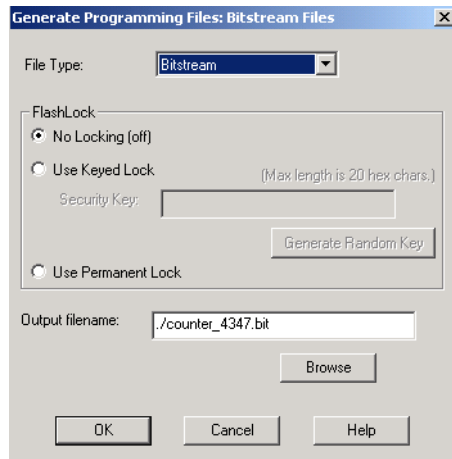

Figure 2-30. Bitstream Generation Dialog Box
1. In the Tools menu, click **Bitstream** or click the **Bitstream** button in the Design Flow window. This displays the Bitstream dialog box (as shown in Figure 2-30).